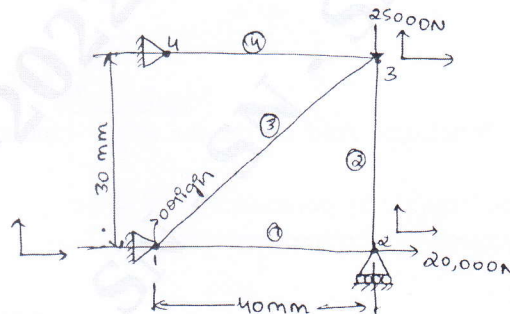

Fig.Q6
- 6 Consider the Four-bar truss shown in Fig.Q6 it is given that  $E = 2 \times 10^5 \text{ N/mm}^2$  and  $A_s = 100\text{mm}^2$  for all elements.